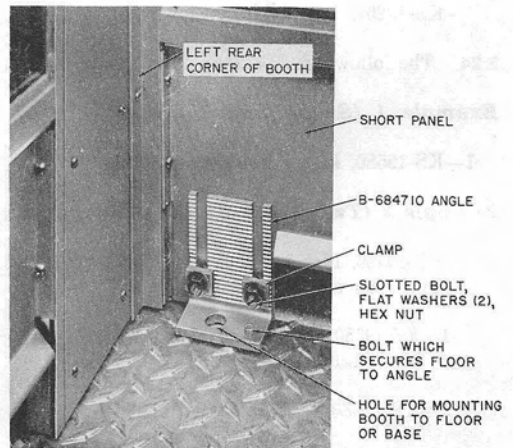

Fig. 11—Anchor Bracket and Leveling Device
2.21 Adjustable mounting angles are provided to facilitate booth leveling up to 3 inches (Fig. 11). They are also used for bolting the booth to its mounting surface.
- (a) If a KS-19580, List 28 foundation template is used, remove insert plugs from template and secure anchor brackets (Fig. 11) of booth
- (1) Mark the location for four mounting holes.
- (2) Drill four lead holes to accommodate 5/16 by 2-1/2 inch lag screws.
- (3) Secure booth to floor using the four 5/16 by 2-1/2 inch lag screws, four 5/16-inch lockwashers, and four 5/16-inch flatwashers.
- (d) Adjust the anchor brackets (Fig. 11) if necessary, and ensure that the booth is level.